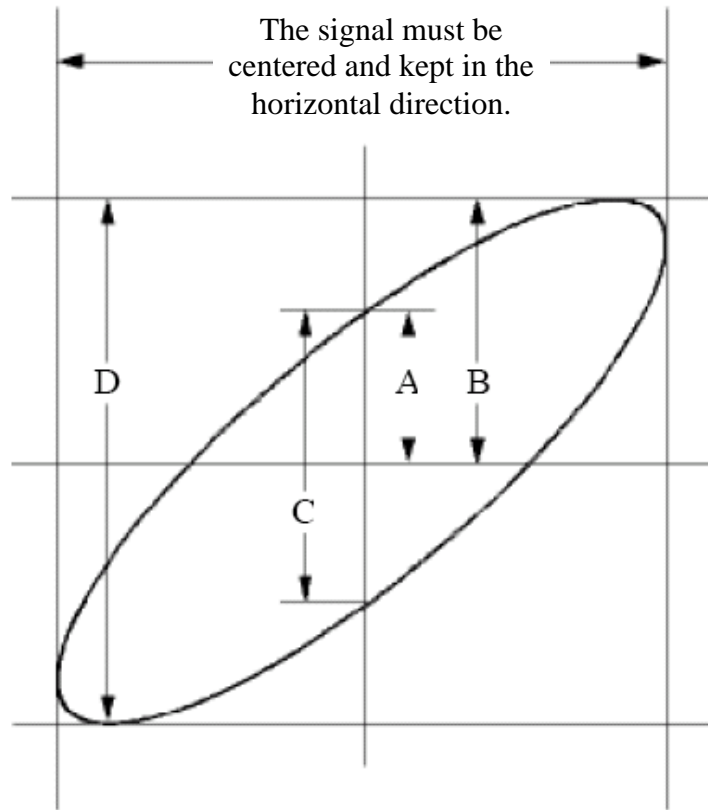

Fig.6-6 Lissajous Graph
- (8) With the elliptical oscillogram method adopted, observe and calculate the phase difference (see **Fig.6-6**).